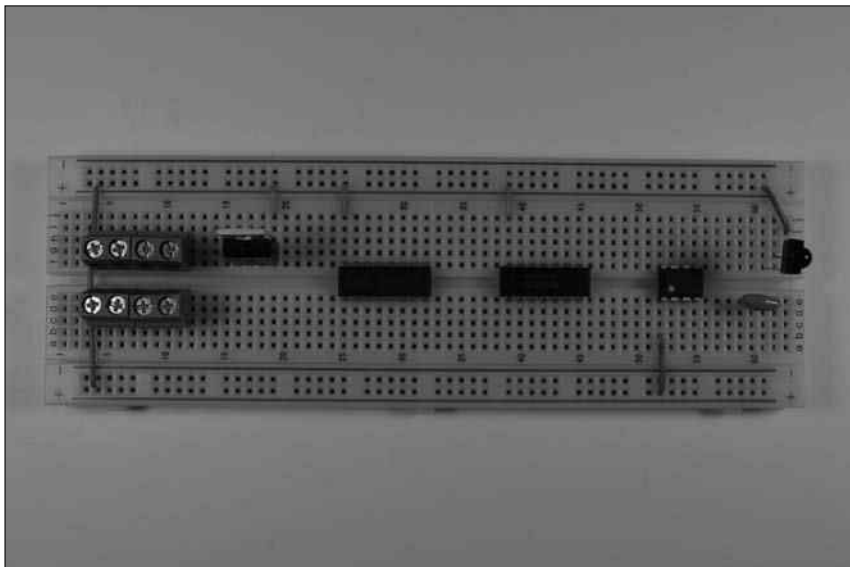

Figure 11-27:
4. Insert wires to connect each component to the + voltage bus and a wire to connect the two + voltage buses, as shown in Figure 11-27.